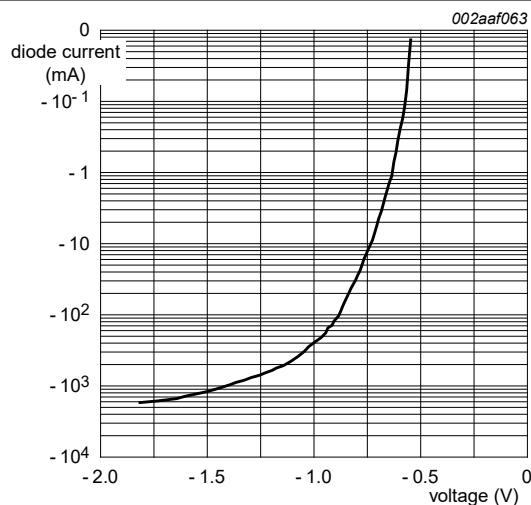

Figure 22. Diode characteristic curve
Figure 22 shows the measured characteristic for one of those diodes inside PCA9600. The plot was made using a curve tracer that applies 50 Hz mains voltage via a series resistor, so the pulse durations are long duration (several milliseconds) and are reaching peaks of over 2 A when more than -1.5 V is applied. The IC becomes hot during this testing but it was not damaged. Whenever there is current flowing in any of these diodes, it is **possible** that there can be faulty operation of any IC. For that reason, we put a specification on the negative voltage that is allowed to be applied. It is selected so that, at the highest allowed junction temperature, there is a big safety factor that guarantees the diode does not conduct and then we do not need to make any 100 % production tests to guarantee the published specification.
For the PCA9600, in specific applications, there is always transient overshoot and ringing on the wiring that can cause these diodes to conduct. Therefore, we designed the IC to withstand those transients and as a part of the qualification procedure, we made tests using DC currents to more than twice the normal bus sink currents, to be sure that the IC is not affected by those currents. For example, the TX/TY and RX/RX pins were tested to at least -80 mA, which, from Figure 22, would be more than -0.8 V. The correct functioning of the PCA9600 is not affected even by those large currents. The Absolute Maximum (DC) ratings are not intended to apply to transients but to steady state conditions. This explains why you never see any problems in practice even if, during transients, more than -0.3 V is applied to the bus interface pins of PCA9600.
Figure 22 also explains how the general Absolute Maximum DC specification was selected. The current at 25 °C is near zero at -0.55 V. The PCA9600 is allowed to operate with +125 °C junction and that would cause this diode voltage to decrease by 100 × 2 mV = 200 mV. So, for zero current we must specify -0.35 V and we publish -0.3 V just to have some extra margin.